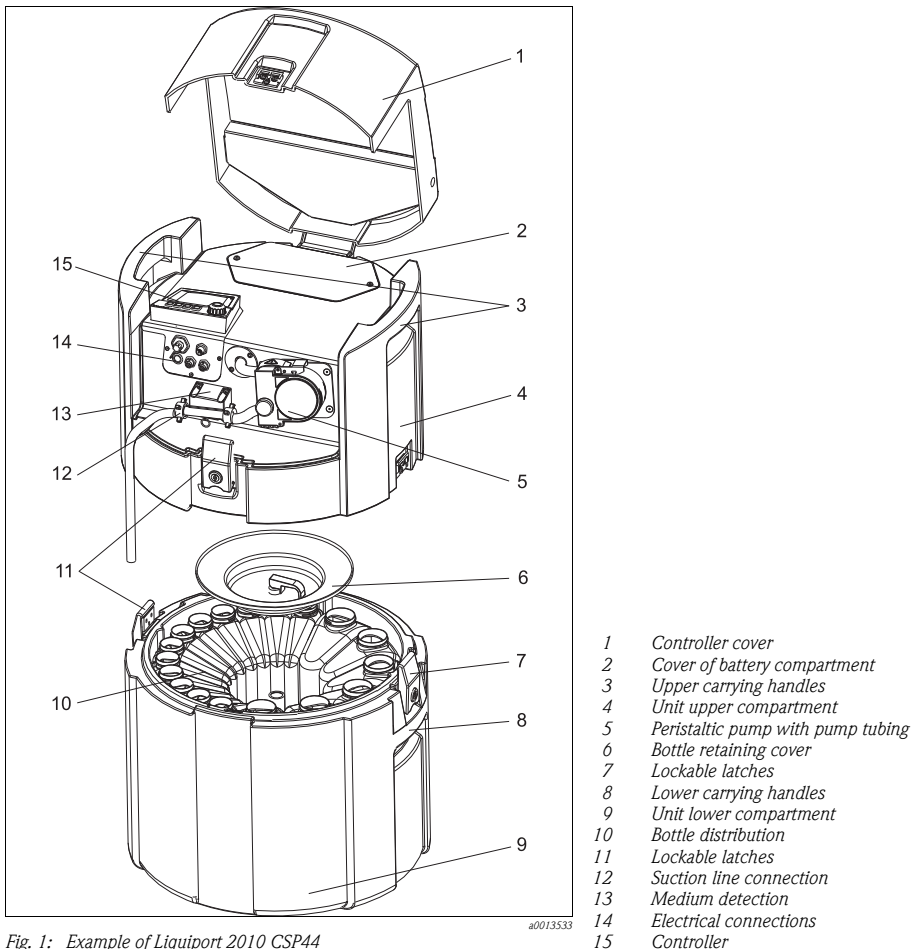

Fig. 1: Example of Liquiport 2010 CSP44
1. Unscrew the battery compartment cover, see Fig. 1, pos. 2.